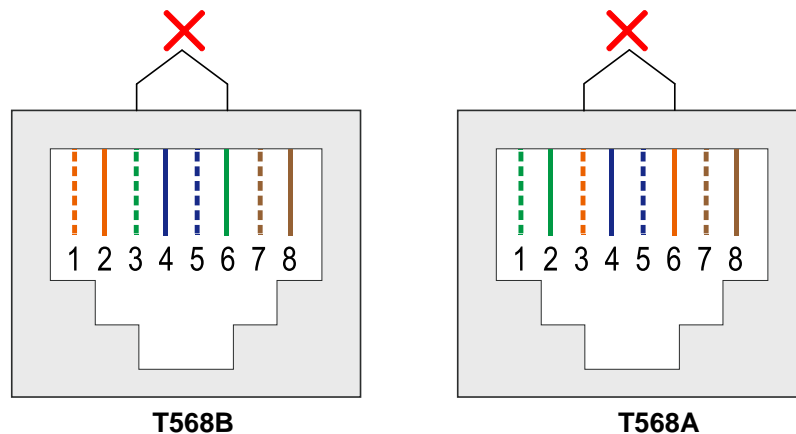

Figure 3 Cut off pins 3 and 6 at the other end
Step 3: Cut through pins 3 and 6 at the other end (Figure 3). Carefully push the other 6 unstripped coloured wires into the RJ45 plug.